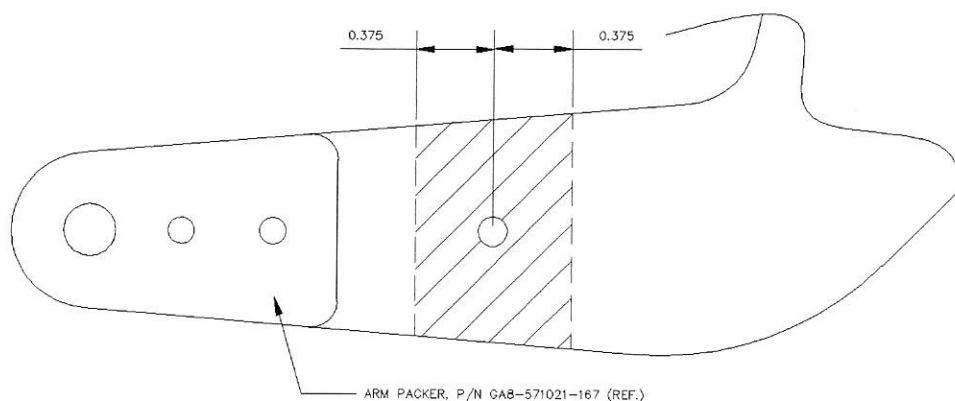

Figure 1- Area of Paint Removal for typical Arm
2. Remove all paint and primer from the affected area at least 0.375" either side of the fastener hole as shown in Figure 1.